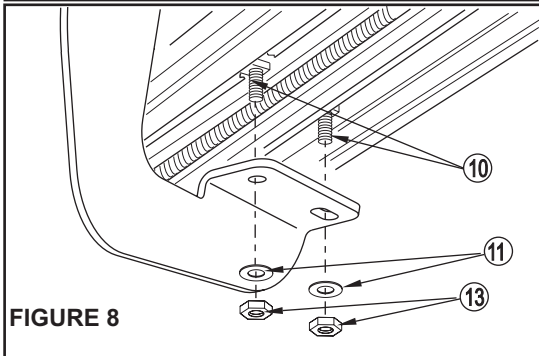

FIGURE 8
- STEP 5. Attach board to brackets as shown. Make sure board and brackets are properly aligned and tighten fasteners. Recommended torque values are 16 FT.LBS. for 8mm fasteners, 10 FT.LBS. for 5/16" square head fasteners and 15 FT. LBS. for 5/16" fasteners. **SEE FIGURE 8.**